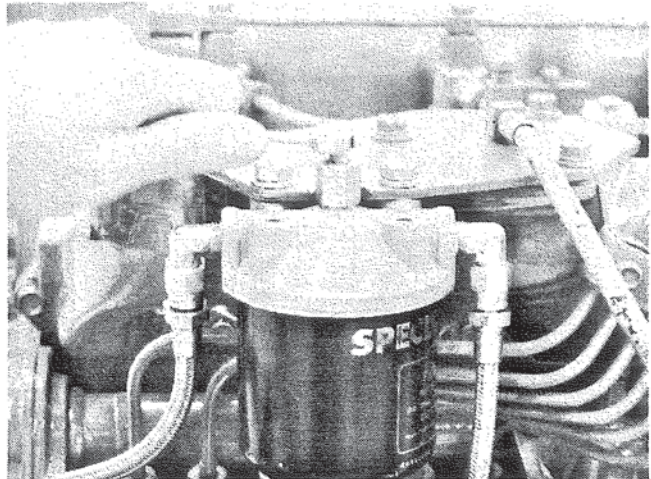

Figure 18. Loosening Bleed Screw.
A. Loosen bleed plug at top of center bolt. Figure 18.